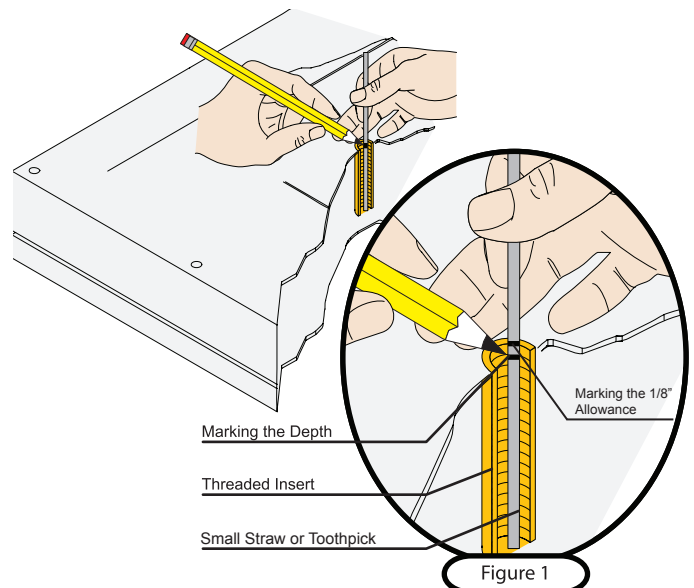

Figure 1
- ❶ Insert a small straw or toothpick into the threaded inserts found on the back of the flat panel.
- ❷ Use a pencil to mark the depth of the threaded insert on the small straw or toothpick.
- ❸ Mark the straw or toothpick $\frac{1}{8}$ " above the depth of the threaded insert, as shown in Figure 1.
- ❹ Insert the small straw or toothpick into the remaining threaded inserts to compare and verify their depth using the straw or toothpick's $\frac{1}{8}$ " allowance mark.
- ❺ Locate the correct diameter screw for the threaded insert.